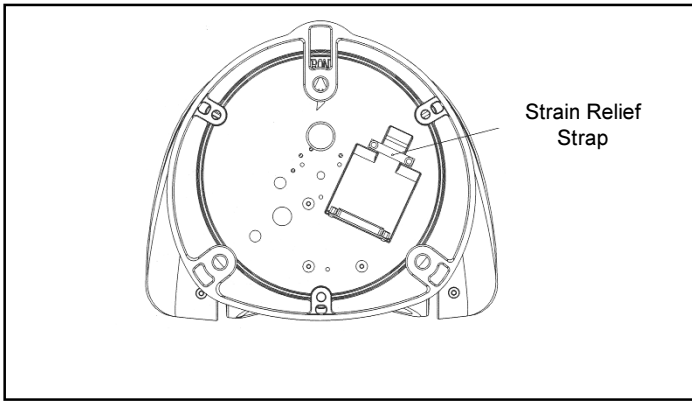

Figure 5 Bottom view of the ProtectIR Camera
8. Place the mounting ring(2) over the holes.
12. Feed the system harness(5) through the 2 inch hole. For ease of installation, remove the thumb screws by turning them a full counter-clockwise turn.
14. At the base of the camera, use a T-15 Torx driver to remove one screw and loosen the other that holds the strain relief strap. See Figure 5. Rotate the strap away and connect the system harness(5) to the camera connector. Use a